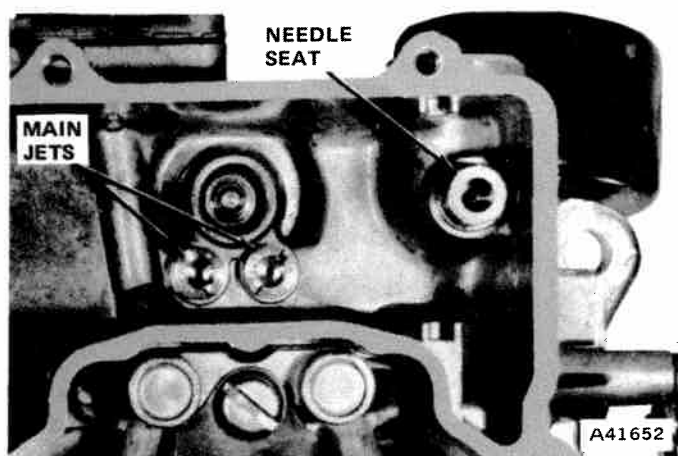

Fig. 4-43 Interior View of Fuel Bowl.
- (12) Remove fuel inlet needle seat and gasket. Remove main jets with Main Metering Jet Wrench J-10174-01 (fig. 4-43).